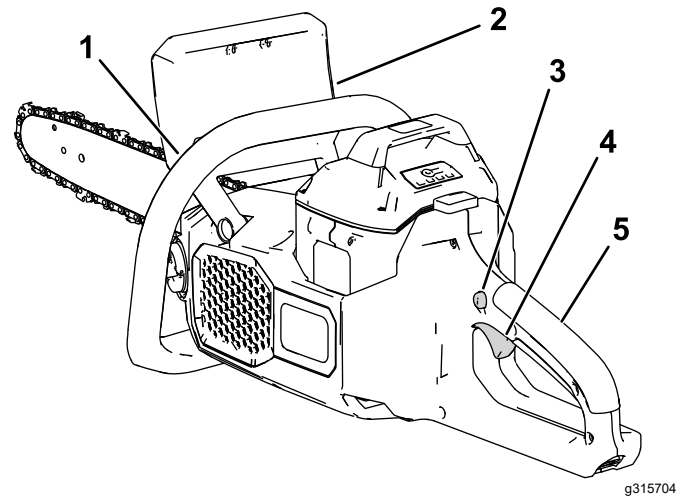

Figure 9
7. With your left hand on the front handle and your right hand on the rear handle, press the trigger lock, then squeeze the trigger (Figure 9).